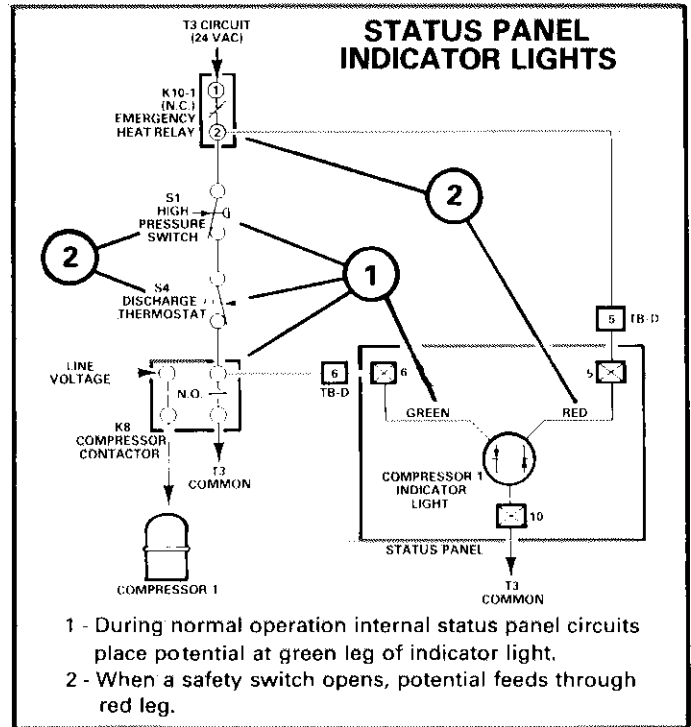

FIGURE 33
- 8 - The "Compressor 1", "Compressor 2" and "Heat Mode" indicator lights used in the status panel options are dual color. Figure 33 illustrates "Compressor 1" light schematically. The light is green during a compressor demand but changes to red if a safety switch opens.